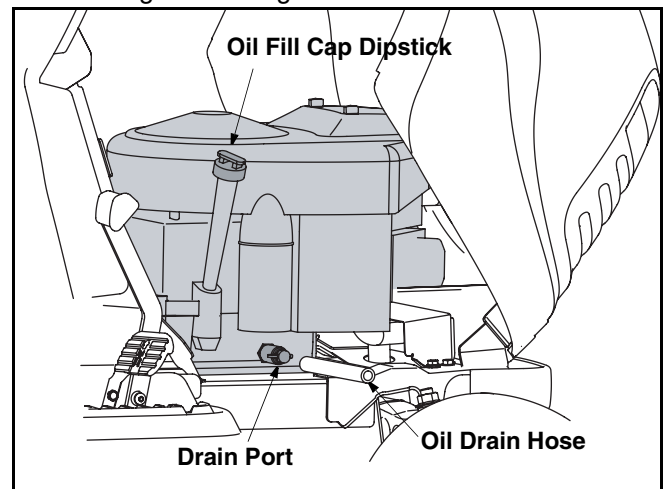

Figure 17
- Unscrew oil fill cap and remove dipstick from the oil fill tube. See Figure 17.
- Pop open the protective cap on the end of the oil drain valve to expose the oil drain port. See Figure 17.
- Push the oil drain valve in slightly, then rotate counterclockwise and pull outward to begin draining oil. See Figure 17.